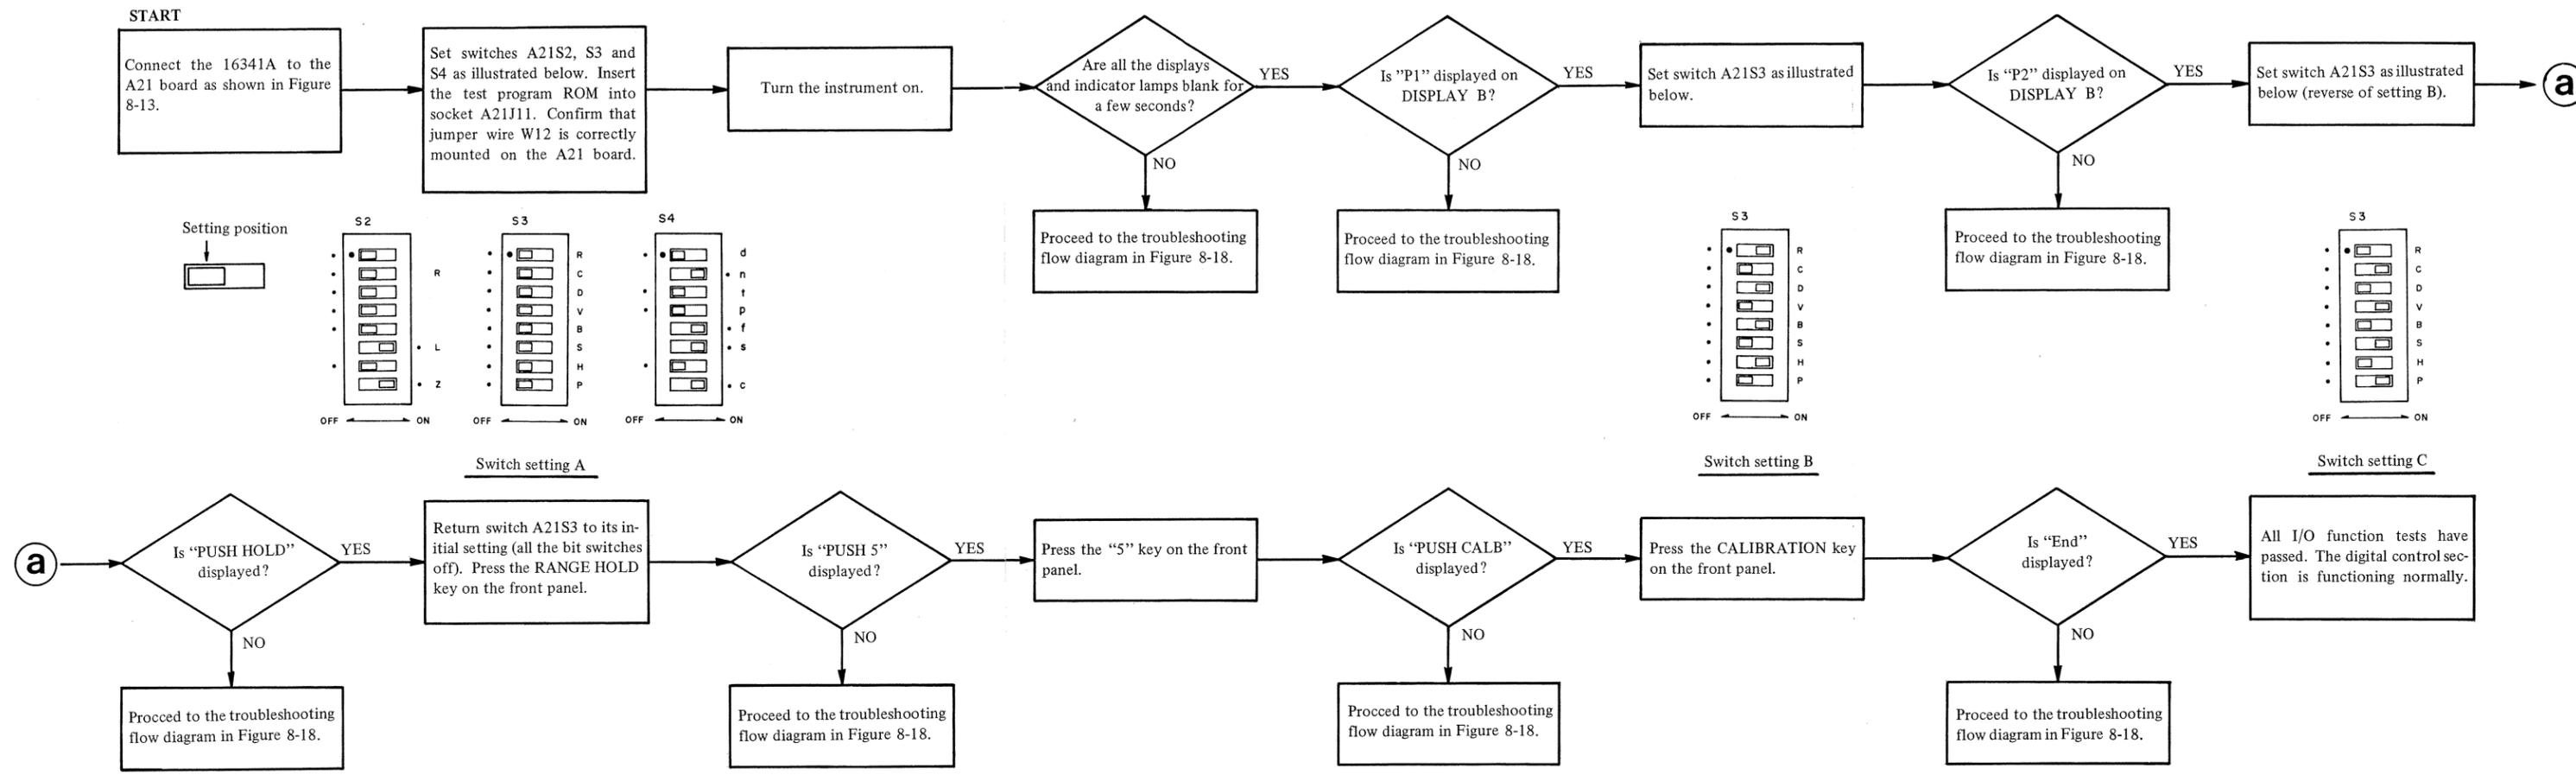

Figure 8-15. Analog and Digital Section Isolation Procedure Using the 16341A.
- 2) Use Figure 8-15 "Analog and Digital Section Isolation Procedure Using the 16341A" to determine whether the failure is in the analog measurement section or in the digital control section. The "Front Panel Troubleshooting Guide" given in Table 8-1 lists the probable causes of failures related to typical symptoms on the front panel controls and displays. This Guide is helpful in finding the location of failures at the level of the analog and digital section isolation.
The troubleshooting flow diagrams are constructed from a primary flow diagram which guides you to the appropriate signature analysis test routine and the branch flow diagrams of the individual signature analysis tests. The procedure given in the primary flow diagram A, is similar to the Analog and Digital Section Isolation Procedure (Figure 8-15) and contains additional instructions on error messages, along with signature analysis troubleshooting details. Thus, it is necessary to perform the isolation procedure before starting troubleshooting with flow diagram A. Find the branch flow diagram suitable for the error message symptom using flow diagram A, then proceed to the pertinent signature analysis procedure in the secondary flow diagrams, B through P. Abbreviations, symbols, and special notation used in the signature analysis test programs are explained below.